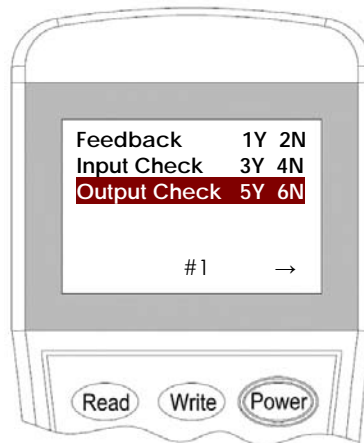

Figure 17: Page 1 for first address
4. The TX7220 takes two addresses, Input the **"5"** for Check mode then press **"Write"** to change the setting (Figure 17).